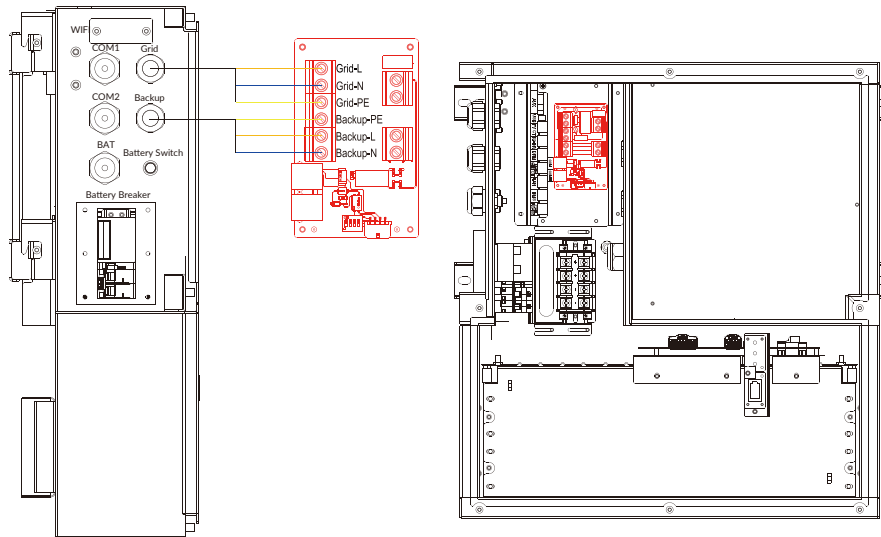

Figure 2.13 Backup and Grid Wire Harness Wiring
Step 8 Connect Grid and Backup wire harness, as shown in Figure 2.13.